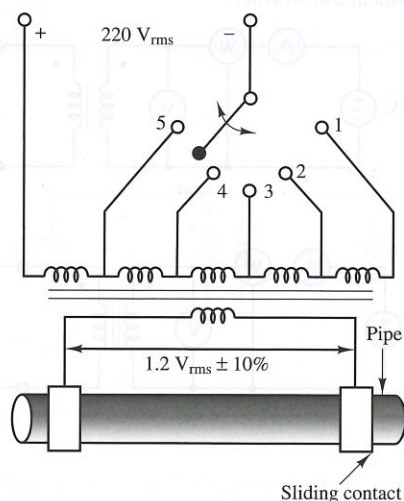

Figure P7.52
7.52 A method of thermal treatment for a steel pipe is to heat the pipe by the Joule effect, caused when a current is directed through the pipe. In most cases, a low-voltage, high-current transformer is used to deliver the current through the pipe. In this problem, we consider a single-phase transformer at 220 V rms, which delivers 1.2 V rms. Because of the pipe's resistance variation with temperature, a secondary voltage regulation is needed in the range of 10 percent, as shown in Figure P7.52. The voltage regulation is obtained with five different slots in the primary winding (high-voltage regulation). Assuming that the secondary coil has two turns, find the number of turns for each slot.